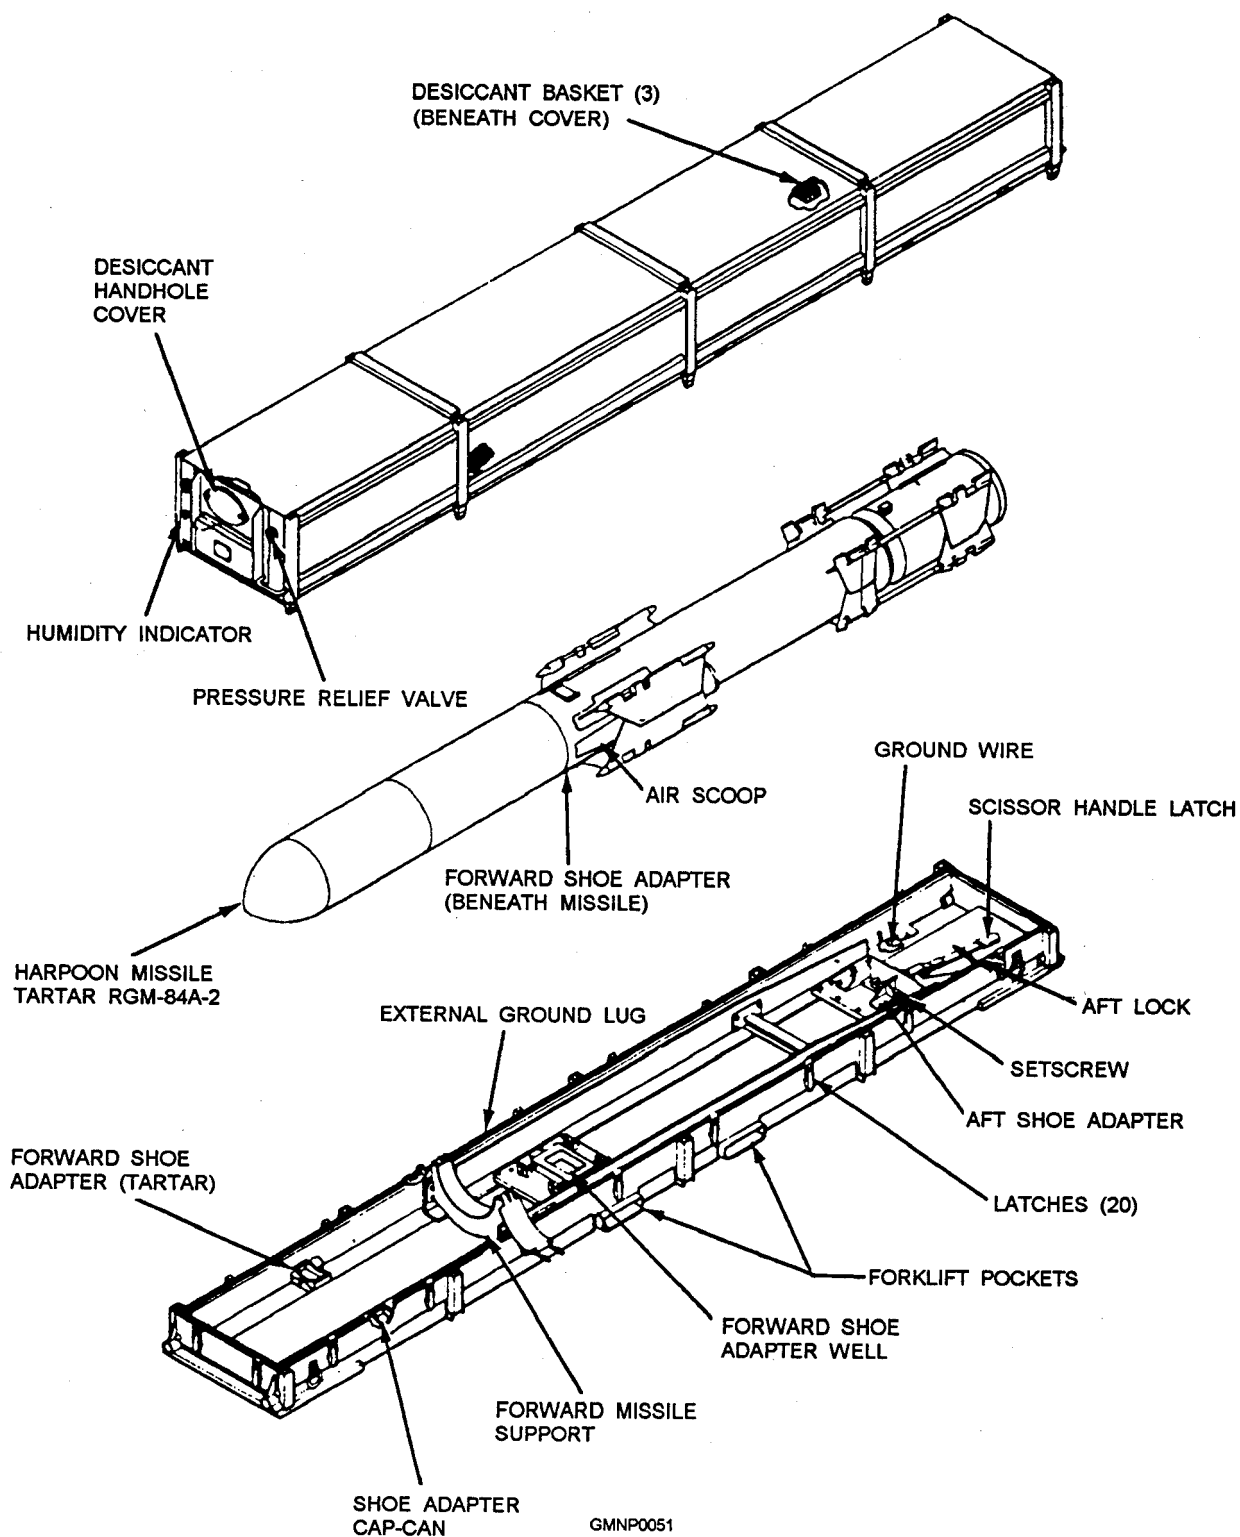

Figure 2-36.—Mk 632 Mod 0 container for Harpoon missiles.
**MK 632 CONTAINER.**— The Mk 632 Mod 0 container (fig. 2-36) is used to ship and stow Standard-